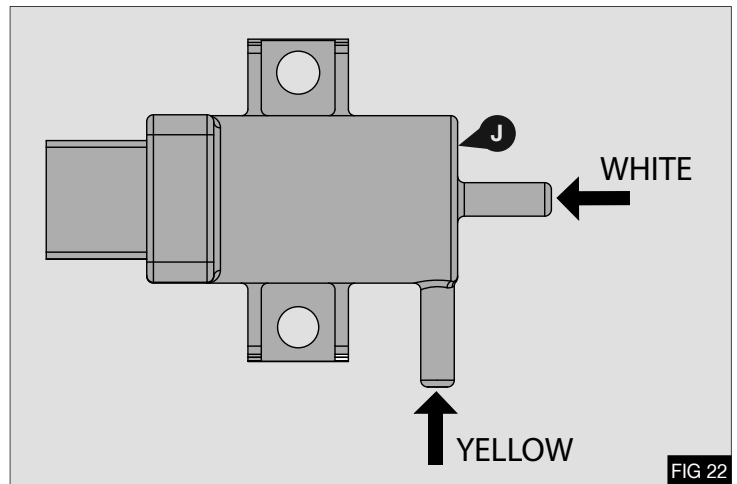

FIG 22
3. Connect previously installed vacuum hose extensions (25) to vacuum solenoid (J) - Fig 22